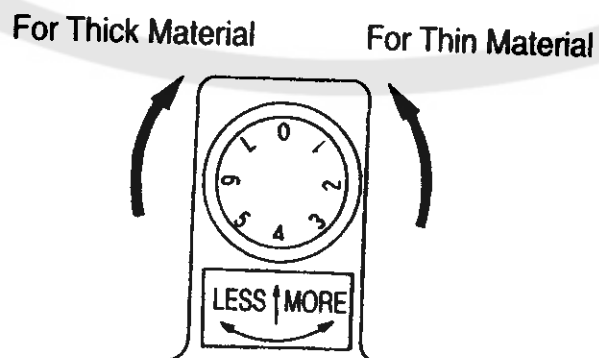

Fig.18
9. Adjustment of Needle Penetration (Fig.18)